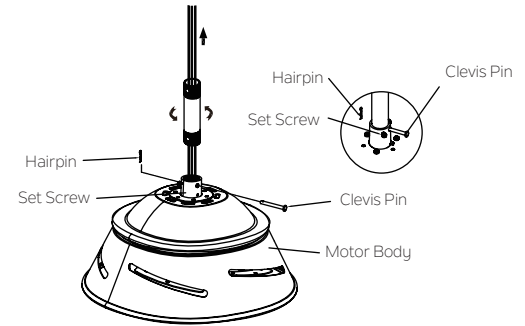

Fig. 8
Step 3. Carefully feed fan wires and safety cable up through the downrod. Thread the downrod onto the motor coupling until the clevis pin holes are aligned. Next, replace the clevis pin and hairpin, then tighten both set screws. (Fig. 8)